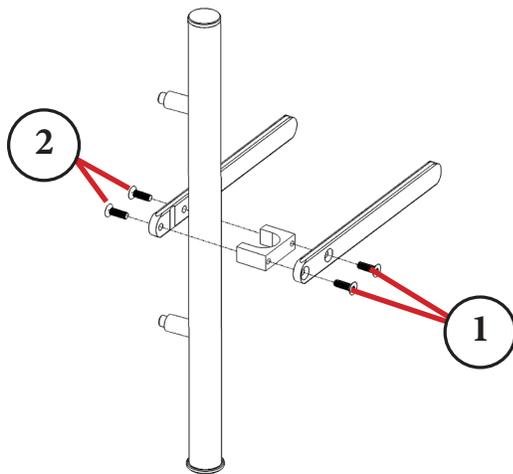

Figure 7.5 - Dual Fairfield Installation
1. Attach one of the rails to the flat side of the clamp with two M8 bolts (Item 1, Figure 7.5)
2. Position the second rail along the MFR aligning the holes with the open end of the clamp. (Item 2, Figure 7.5)